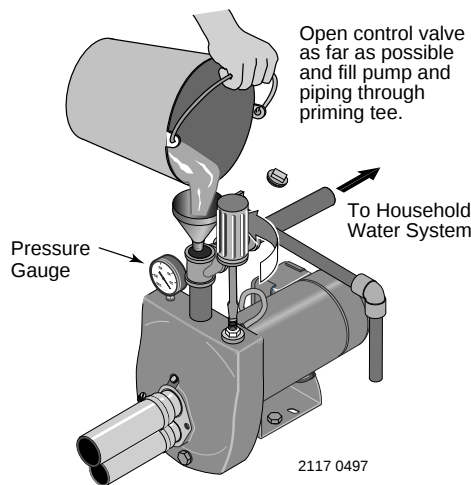

Figure 9: Fill Pump
- Step 1. Open the control valve as far as possible (see Figure 9). Then remove the priming plug from the pump and fill the pump, fill all piping between the pump and the well, and make sure that all piping in the well is full. If you have also installed a priming tee in the suction piping, remove the plug from the tee and fill the suction piping.